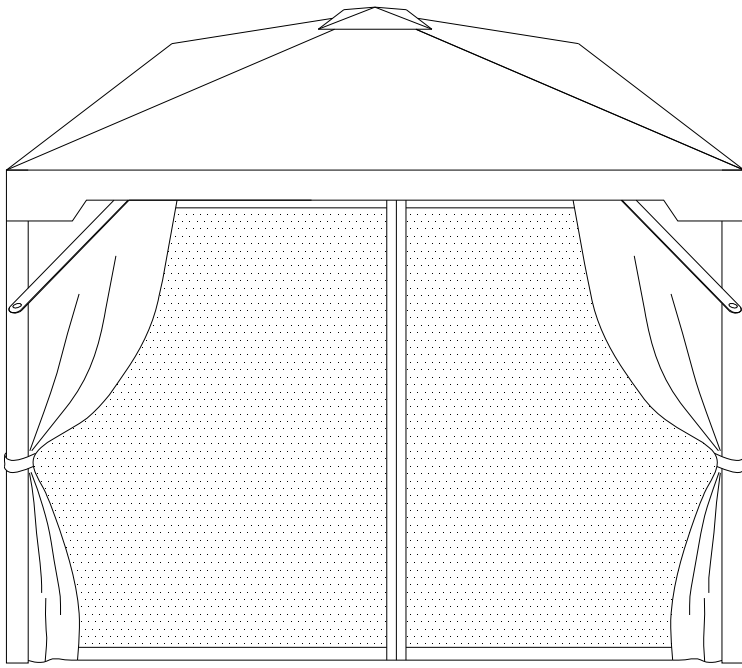

Fig. 10
Put the Vent Canopy (N) onto the frame, then securely attach the Canopy(O) to the Top Tube and the Cross Beams using the velcro strips. (See Fig.10)